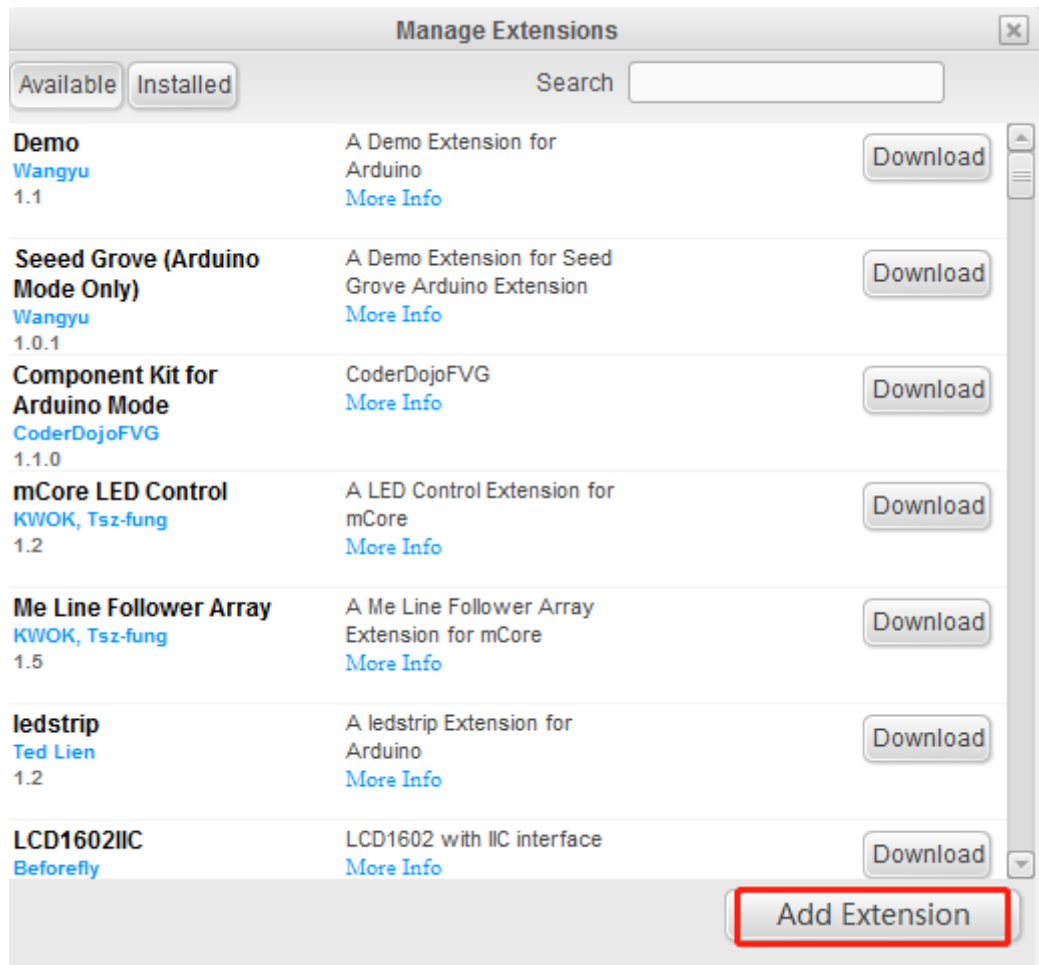

图 2-2
- 3) In the Extension Manager, click “Add Extension” in the lower right corner, as shown in Figure 2-2.